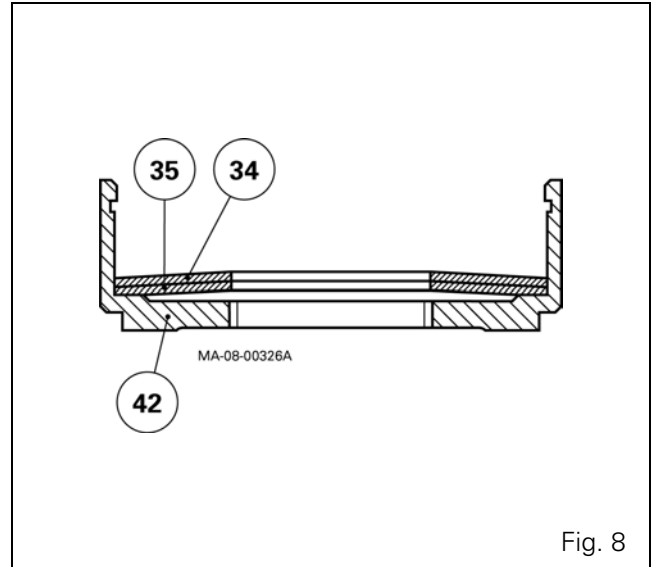

Fig. 8
33. Check and clean all components. Replace any defective parts. Check that the 17 bar channel in the hub (40) is not blocked.
34. Position the Belleville washers (35) (34) in the bell (42) (Fig. 8).